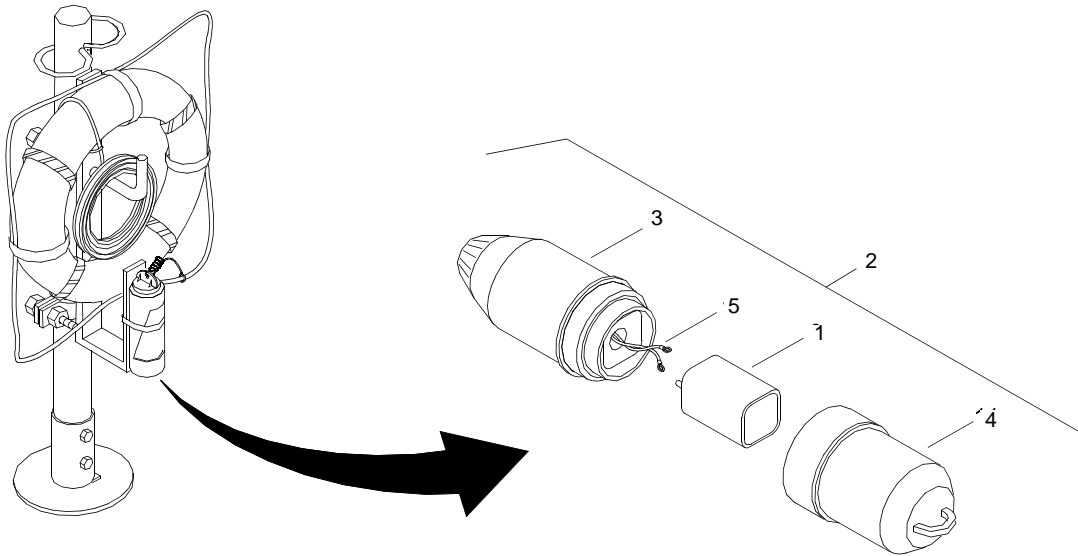

Figure 9. Strobe Light Battery Removal
6. Remove strobe light batteries (figure 9, item 1) in life ring strobe lights (figure 9, item 2).
- a. Unscrew strobe light housing (figure 9, item 3) from strobe light base (figure 9, item 4).
- b. Disconnect two battery wires (figure 9, item 5) from battery (figure 9, item 1).
- c. Remove battery (figure 9, item 1) from strobe light base (figure 9, item 4).
- d. Screw strobe light housing (figure 9, item 3) and strobe light base (figure 9, item 4) together.